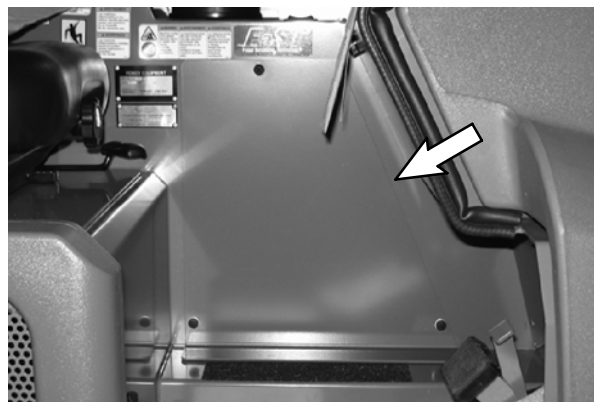

FIG. 1
2. Remove the engine access panel from the operator compartment. Set the access panel and hardware aside. Refer to Fig. 1.